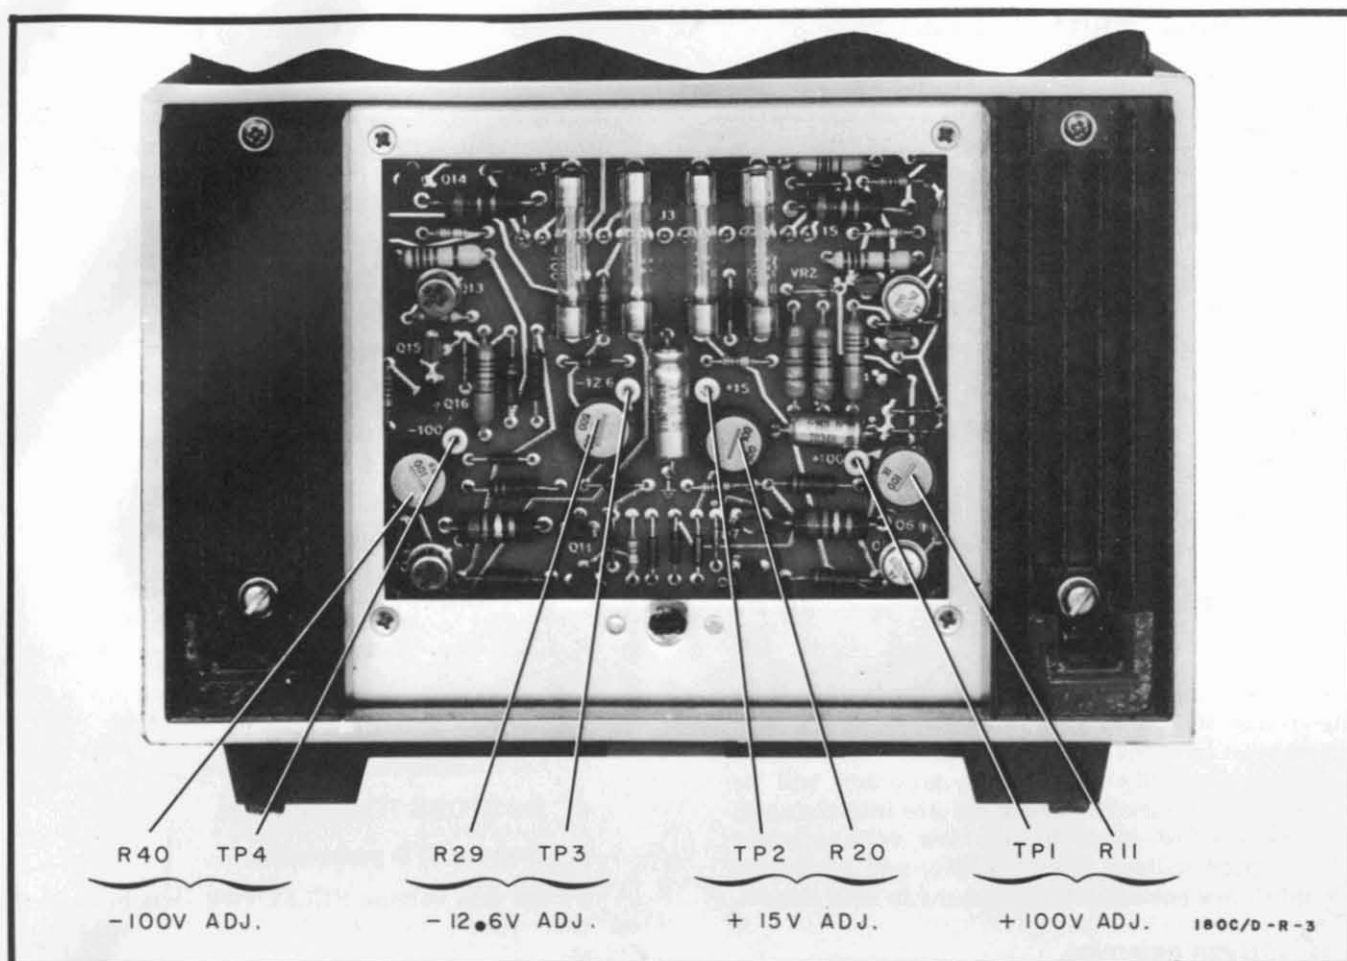

Figure 5-5. Low Voltage Power Supply Adjustments
- Connect digital voltmeter to +100V test point A1A2TP1 (figure 5-5).